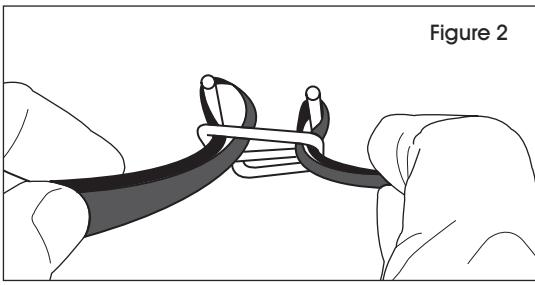

Figure 2
2. Wrap strapping around package. Loop strapping around remaining open leg of buckle. Pull loop tight around leg. (See Figure 2)